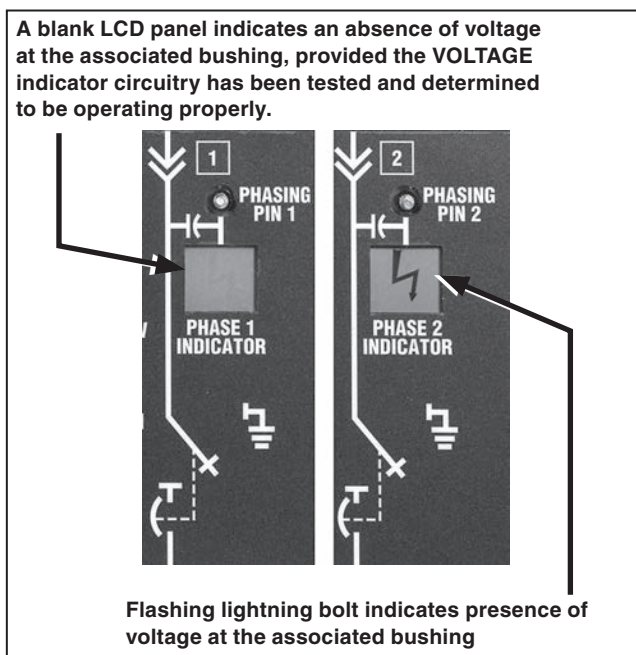

Figure 36. Indication of the presence or absence of voltage.
**STEP 3.** Check the PHASE indicators for the desired phases of the load-interrupter switch or fault interrupter to determine whether there is any voltage at the associated bushings. See Figures 36 and 37. A flashing lightning bolt ⚡ in the PHASE indicator means voltage is present at the bushing. A blank LCD panel means either: